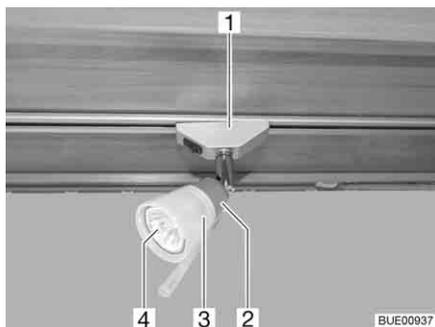

Fig. 222 Halogen spotlight (movable)
- Turn the halogen spotlight (Fig. 222,1) by 90° and remove from rail.
- Turn the lamp shade (Fig. 222,3) in an anticlockwise direction.
- Withdraw lamp shade complete with halogen bulb (Fig. 222,4) carefully from the holder (Fig. 222,2).